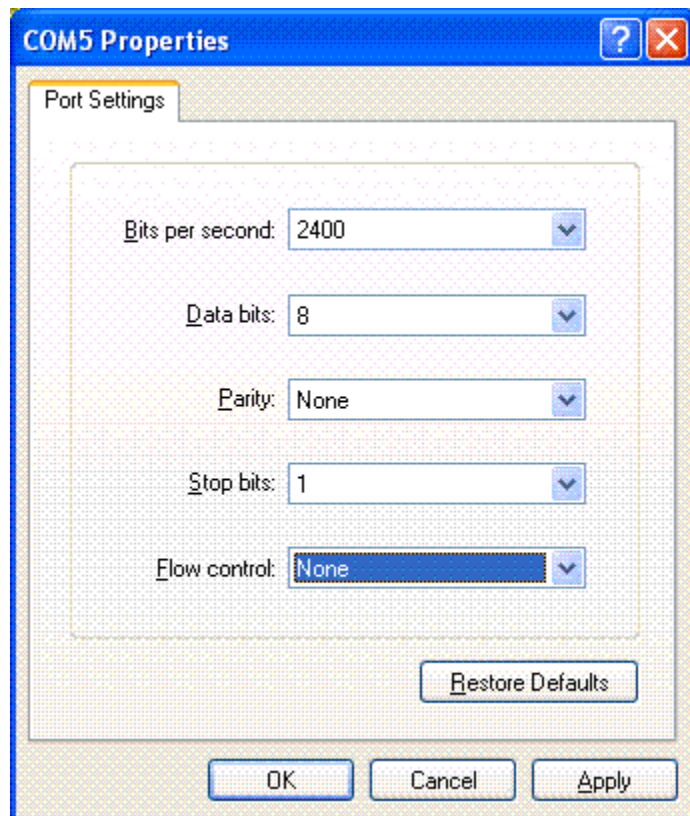

Figure 2 - HyperTerminal Port Properties
4. In the *COMx Properties* Dialog (see Figure 2), pick **2400 Bits per Second**, **8 Data Bits**, **None** (sic) *Parity*, **1 Stop Bits**, and **None** *Flow control*. Click *OK*.